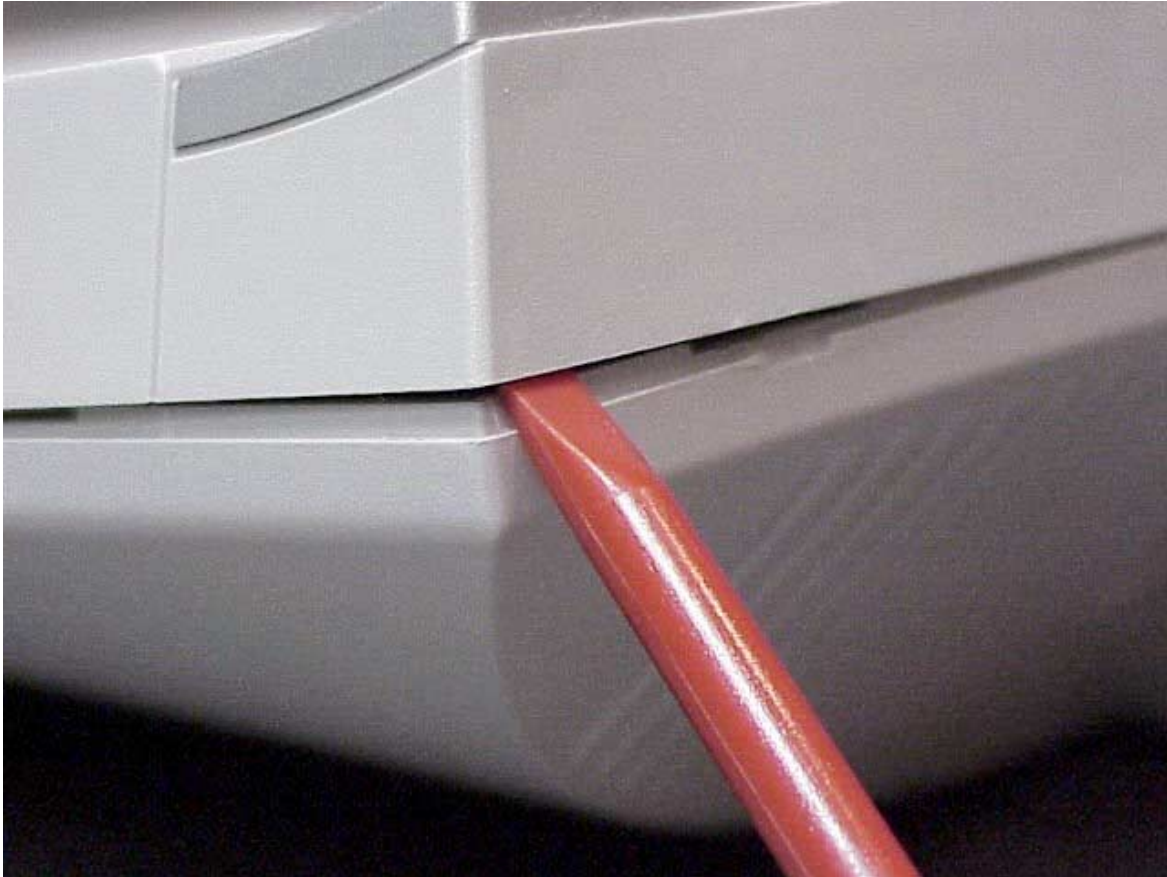
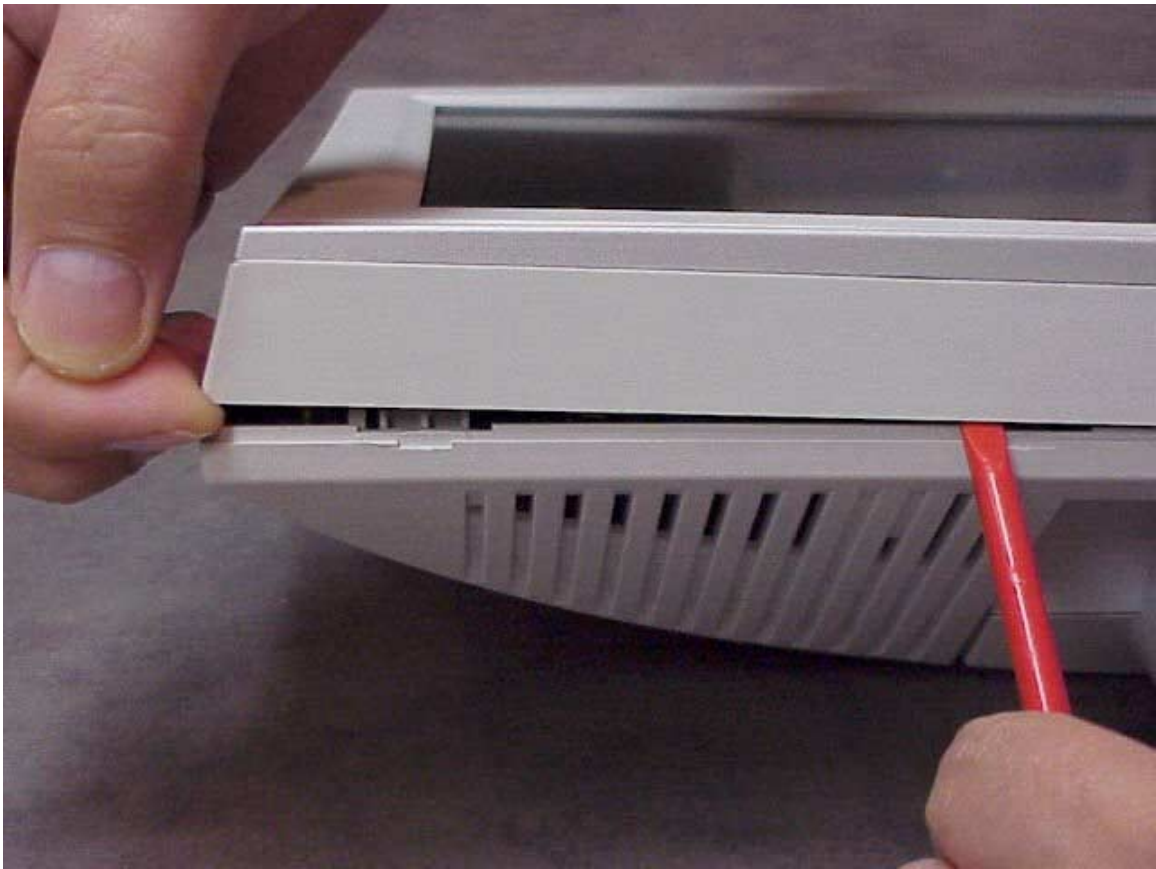

Figure 2.1: sliding screwdriver towards corner of LCD assembly between LCD Bezel and LCD Base.
Figure 2.2: using screwdriver at inner separation tab, while using finger to keep a gap between the LCD Bezel and LCD Base.
Step 2: once the LCD Bezel is separated from LCD Base at the outer separation tab, gently work the screwdriver towards the corner of the LCD Bezel, as shown in figure 2.1. Use your fingers to aid in keeping a gap between the bezel and the base at the corner, and use the screwdriver to separate the LCD Bezel from the LCD Base at the inner separation tab, as shown in figure 2.2